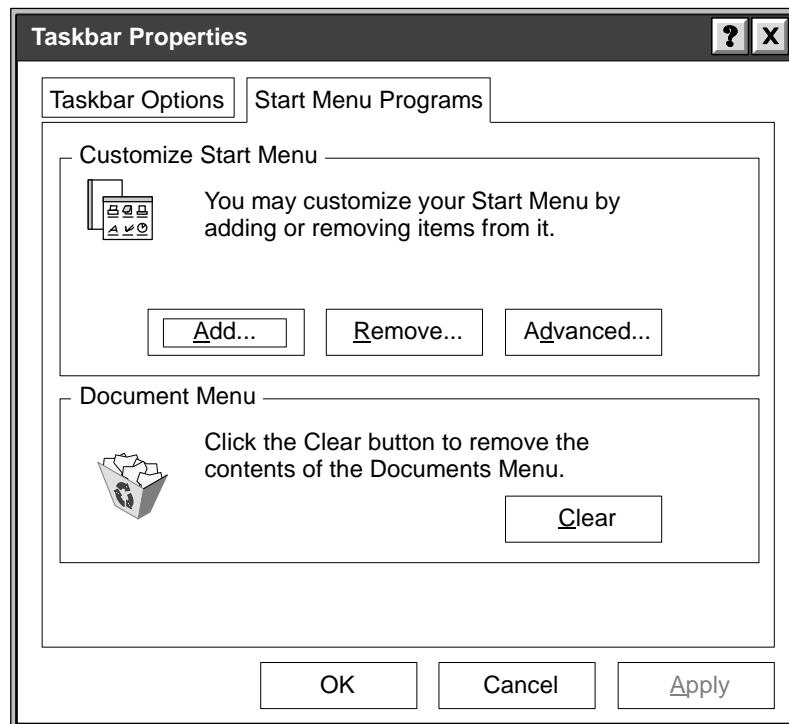

Figure D-1 Taskbar Properties Dialog Box
1. Click the right mouse button over a blank spot on the taskbar, and select **Properties** from the menu. The system displays the Taskbar Properties dialog box (Figure D-1).